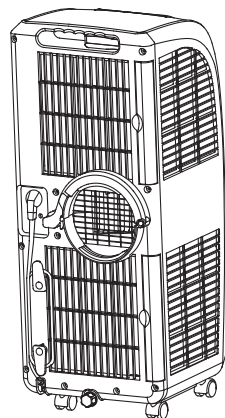

Fig. 2
3. Turn the properly inserted exhaust tube C clip counter-clockwise so that the latch joint of the clip successfully goes through the sliding ledge of the back cover (see fig. 2).